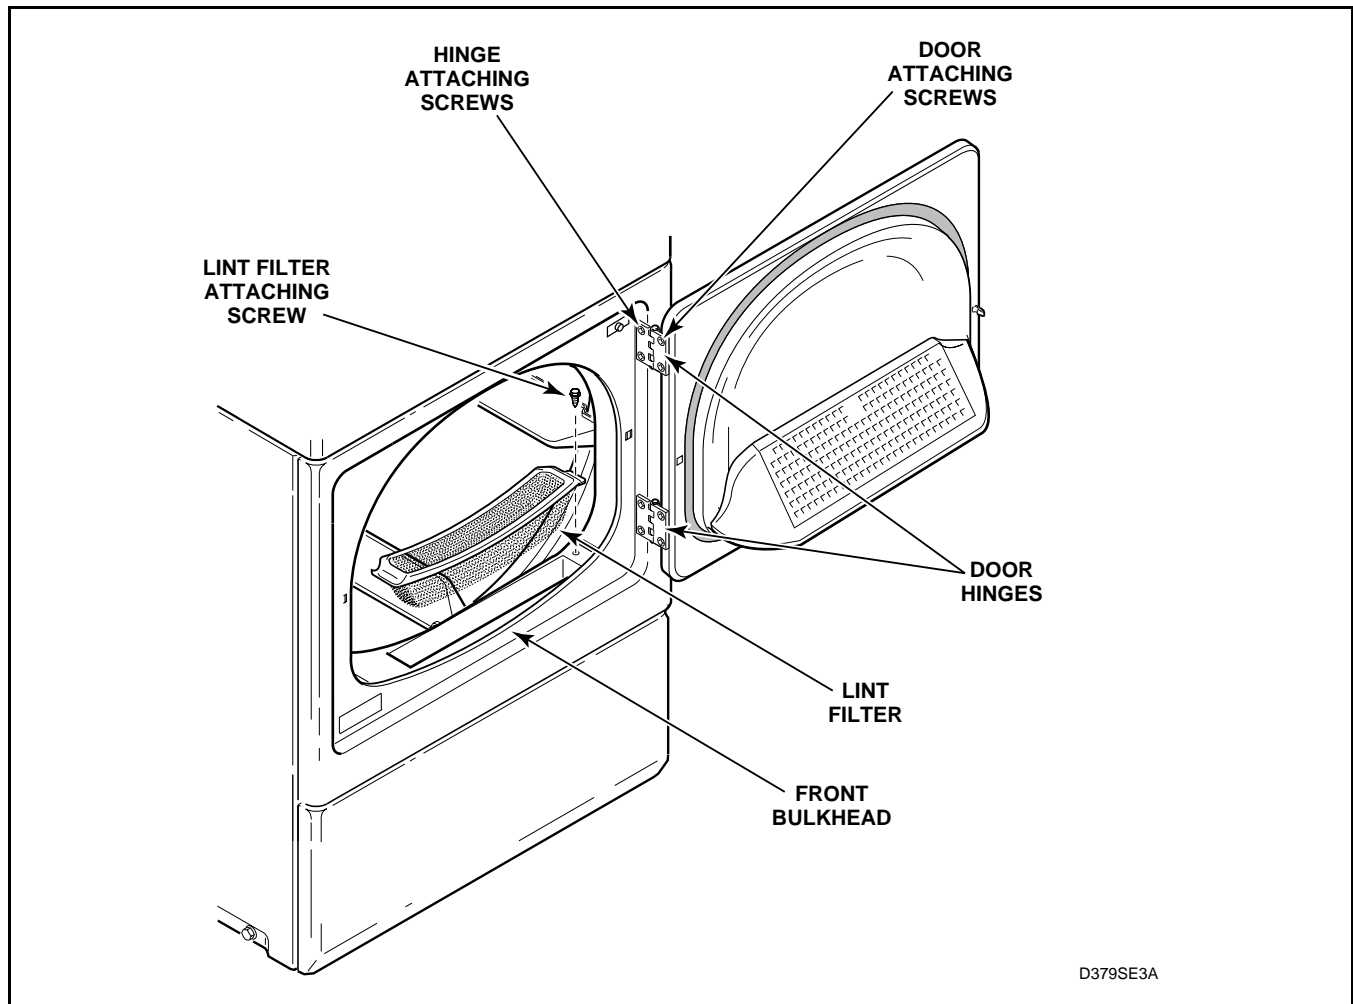

Figure 20
- Remove four screws holding door assembly to hinges. See *Figure 20*.
(Figure 20)
- Remove screws holding loading door to hinges. See Figure 20.